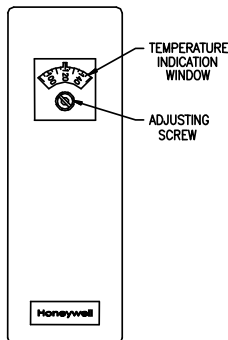

Figure 7 - Aquastat Control
- For the most energy efficient operation, adjust the aquastat for the minimum water temperature necessary to meet domestic hot water needs. Refer to Figure 7. Use a small flat screwdriver to rotate the temperature dial through the hole directly below the temperature indication window. The temperature setting is aligned with the notch in this window. **IT IS NOT NECESSARY TO REMOVE THE COVER TO ADJUST THE TEMPERATURE SETTING. THE AQUASTAT COVER SHOULD NEVER BE REMOVED WITHOUT ELECTRICITY BEING FIRST DISCONNECTED.**